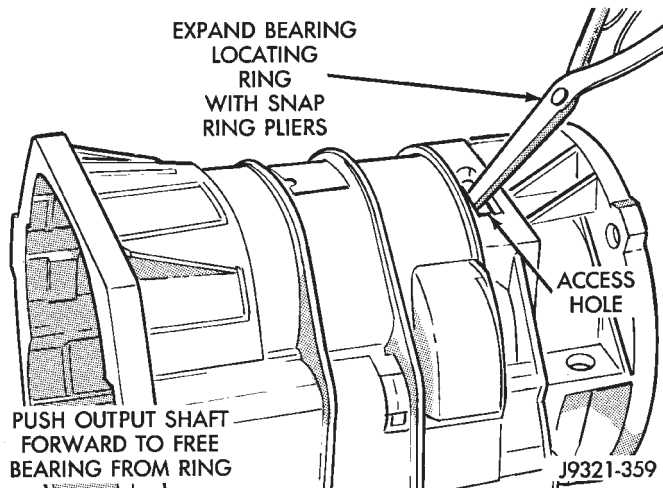

Fig. 232 Seating Locating Ring In Rear Bearing
(9) Expand front bearing locating ring with snap ring pliers (Fig. 232). Then slide case downward until